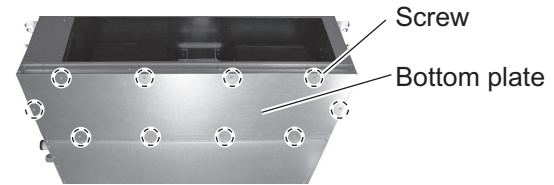

Fig. 4
4. Remove the bottom plate. (Fig. 4)